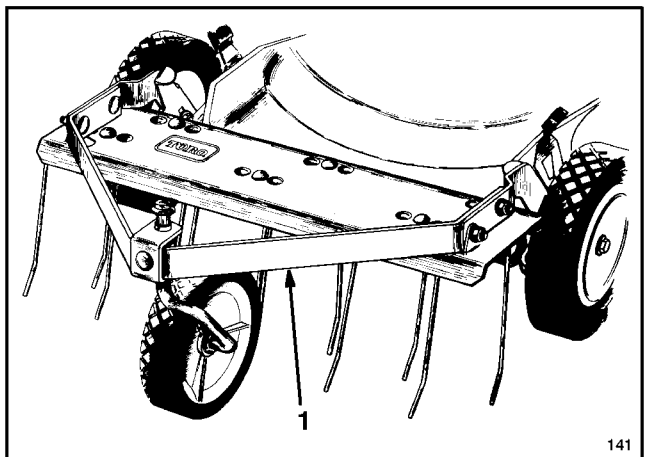

Figure 35
3. **Dethatcher Kit, Model No. 59131**—Installs in minutes. Front mounted for easy maneuverability (Fig. 35). Spring tines loosen thatch for clean vacuuming into grass bag and convenient disposal.